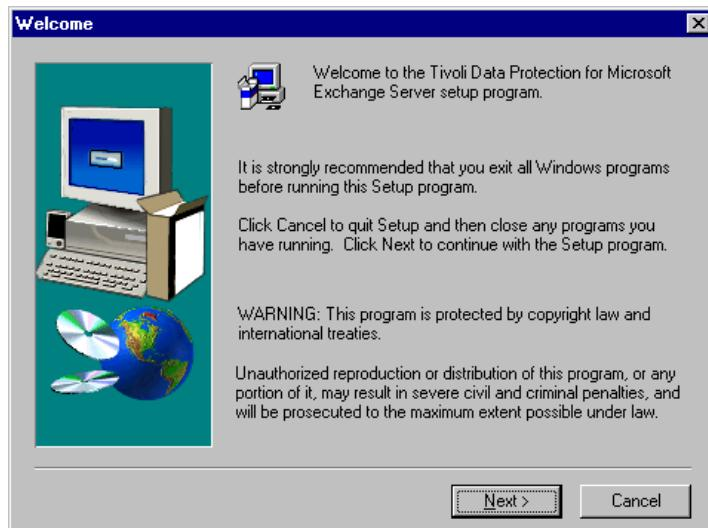

Figure 56. Installing TDP for MS Exchange
1. From Windows Explorer, click on the **setup.exe**. Just like by other Widows-based products, a setup wizard will guide you through the installation process (Figure 56).